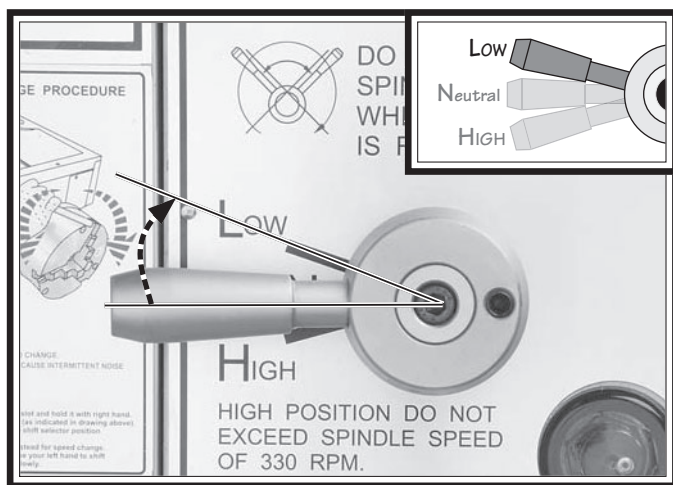

Figure 26. Gearbox range lever-break in.
2. Move the gearbox range lever to low range position, as shown in **Figure 26**.